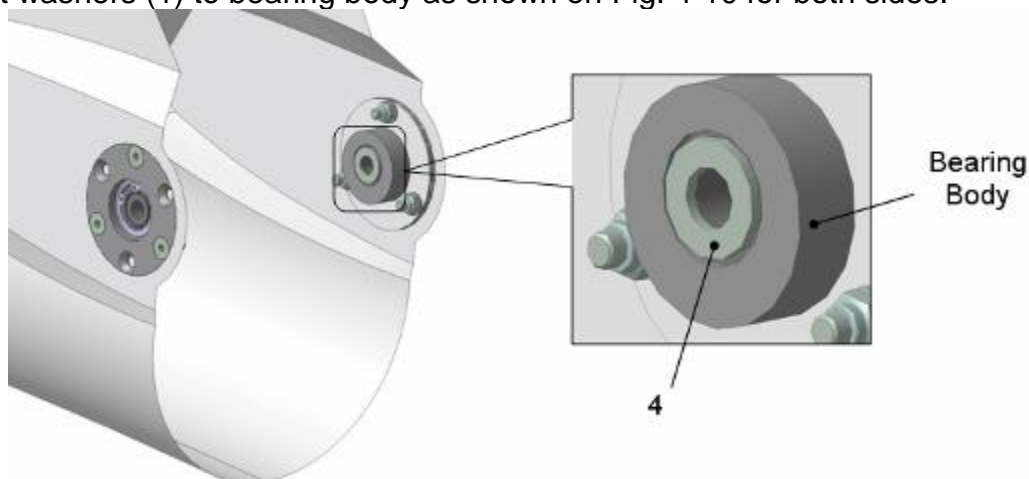

Fig. 4-10
2. Insert washers (1) to bearing body as shown on Fig. 4-10 for both sides.